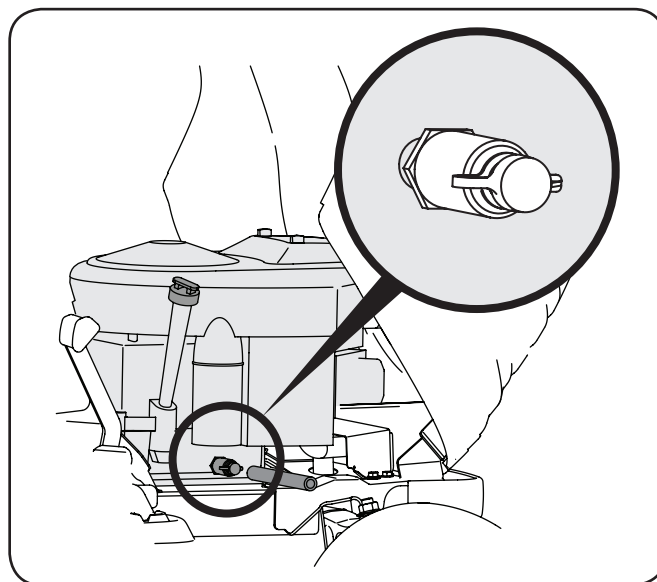

Figure 6-2
3. Pop open the protective cap on the end of the oil drain valve to expose the drain port. Figure 6-2.
6. Rotate the drain valve counter-clockwise and release to drain the oil. See Figure 6-2.